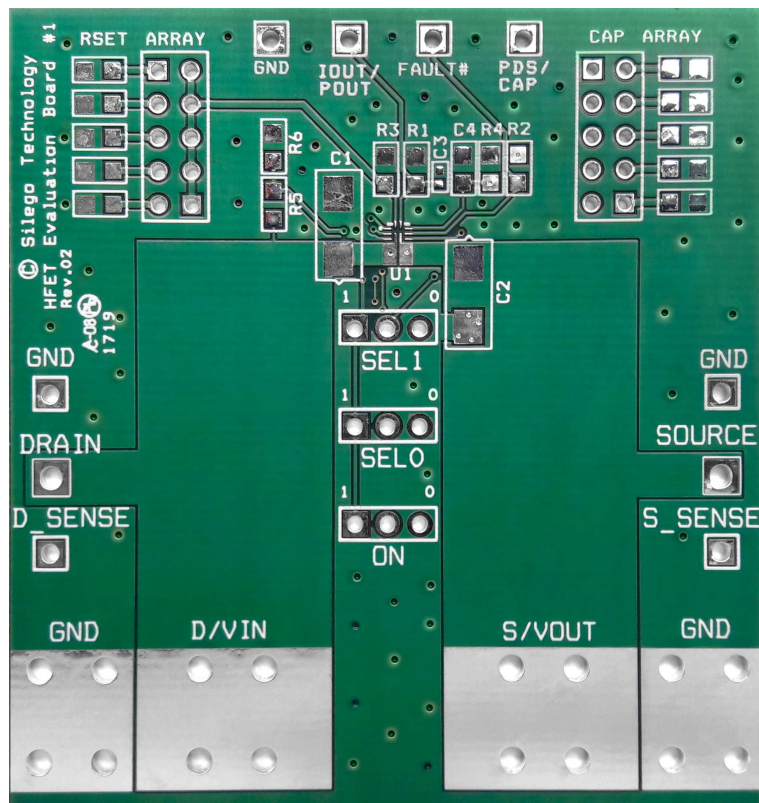

Figure 14. SLG59H1008V Evaluation Board
1. Since the VIN and VOUT pins dissipate most of the heat generated during high-load current operation, it is highly recommended to make power traces as short, direct, and wide as possible. A good practice is to make power traces with absolute minimum widths of 15 mils (0.381 mm) per Ampere. A representative layout, shown in Figure 14, illustrates proper techniques for heat to transfer as efficiently as possible out of the device;
A High Voltage GreenFET Evaluation Board for SLG59H1008V is designed according to the statements above and is illustrated on Figure 14. Please note that evaluation board has D_Sense and S_Sense pads. They cannot carry high currents and dedicated only for RDS_{ON} evaluation.